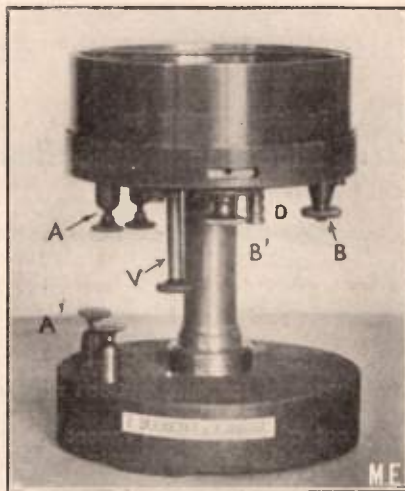

FIG. 1
-FIG. 1-
To begin, take your pliers and cut off the small sockets in the end of each tube, thus preparing them for the reception of the screw holding the binding post. Next take the piece of sheet aluminum or brass and make from it *two pieces* like Fig. 1. Bore holes or punch as shown. The need for this is plain, so further explanation is unnecessary.